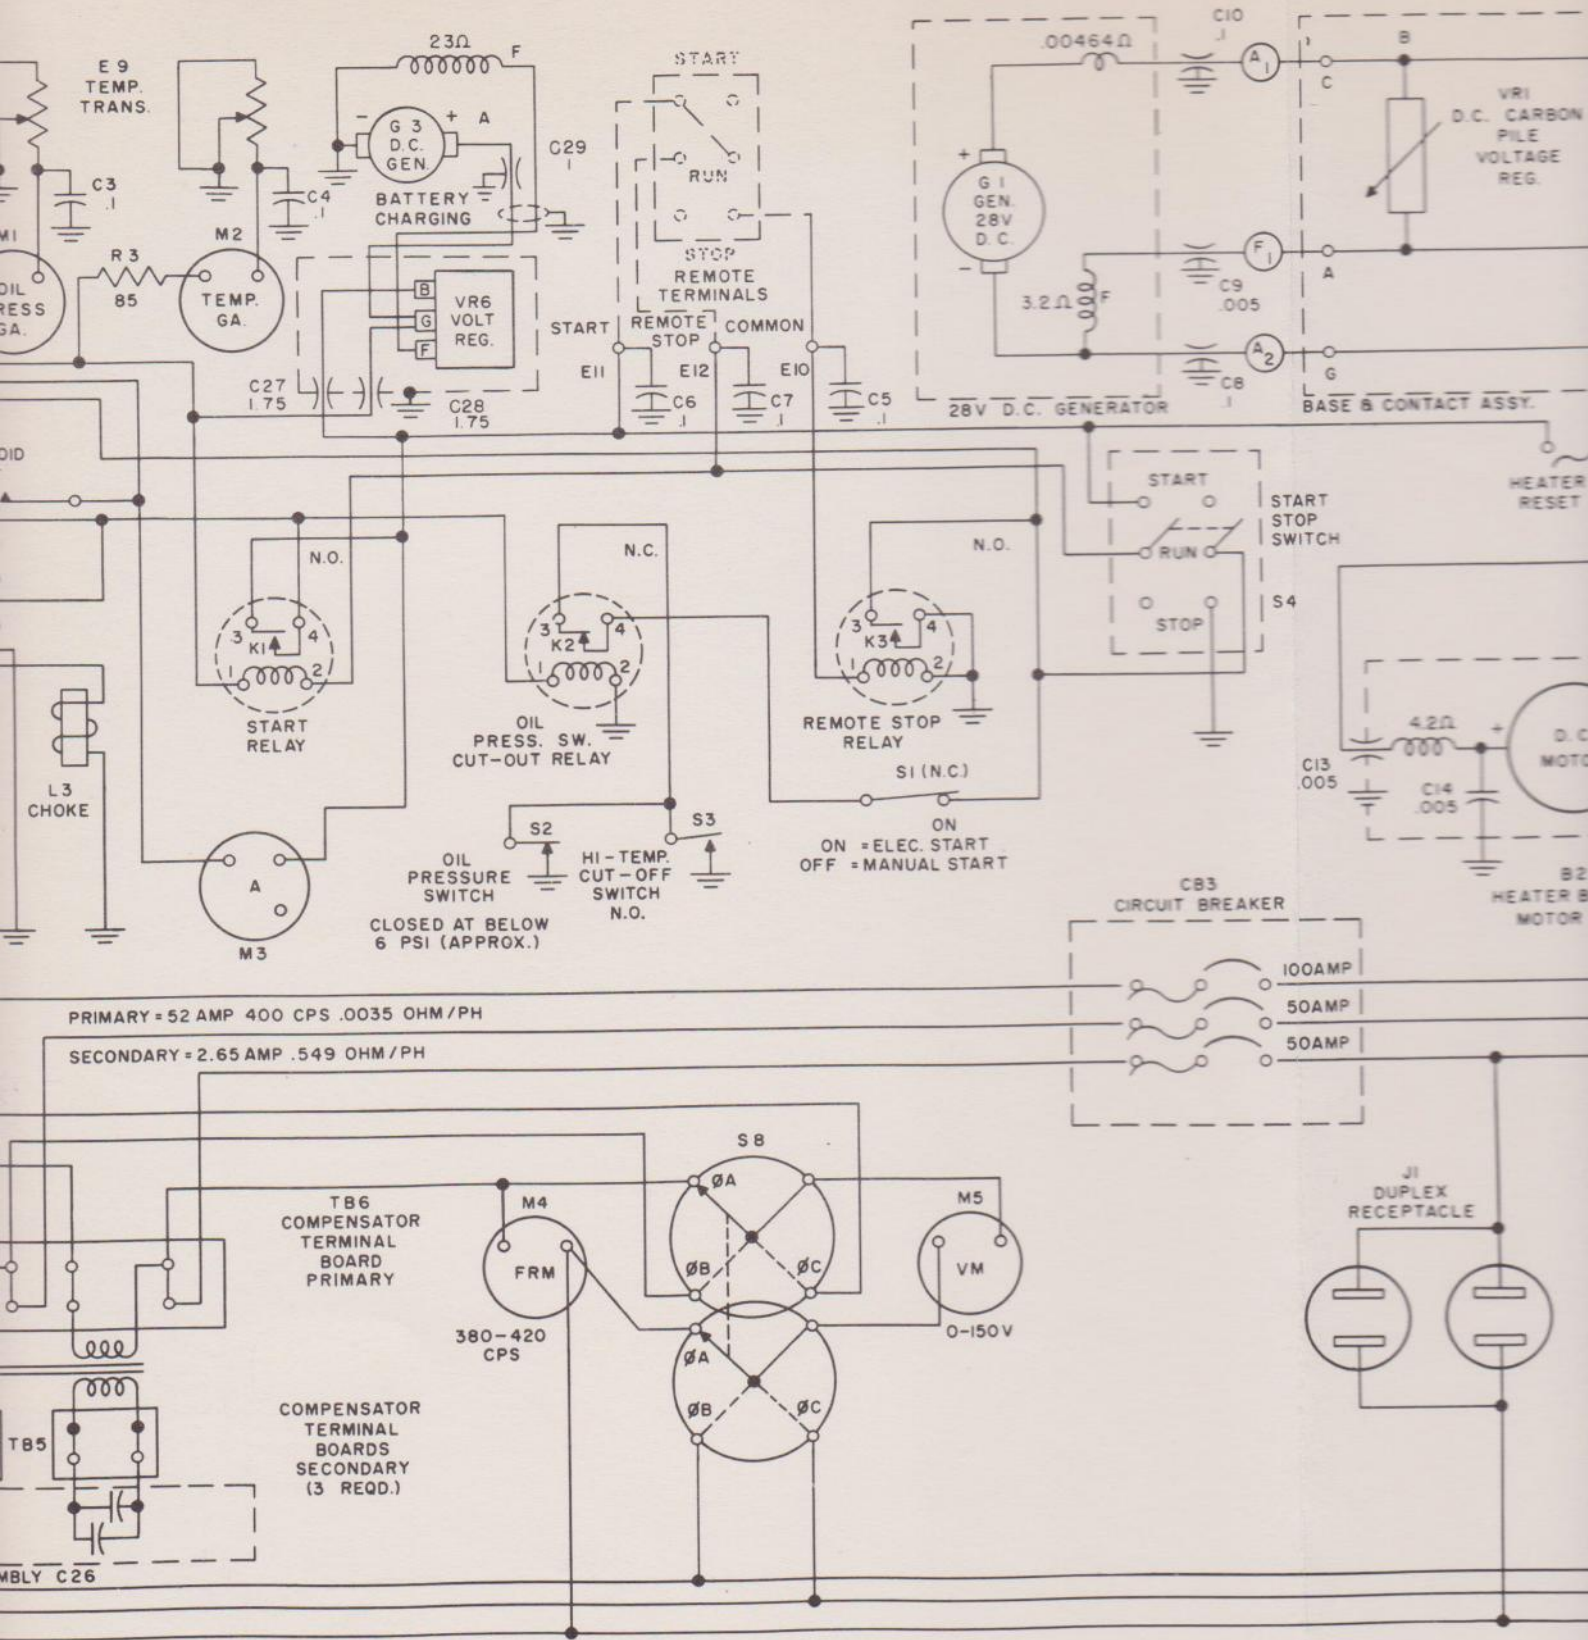

Figure 21. Schematic wiring diagram.
*g. Starting System* (fig. 21).